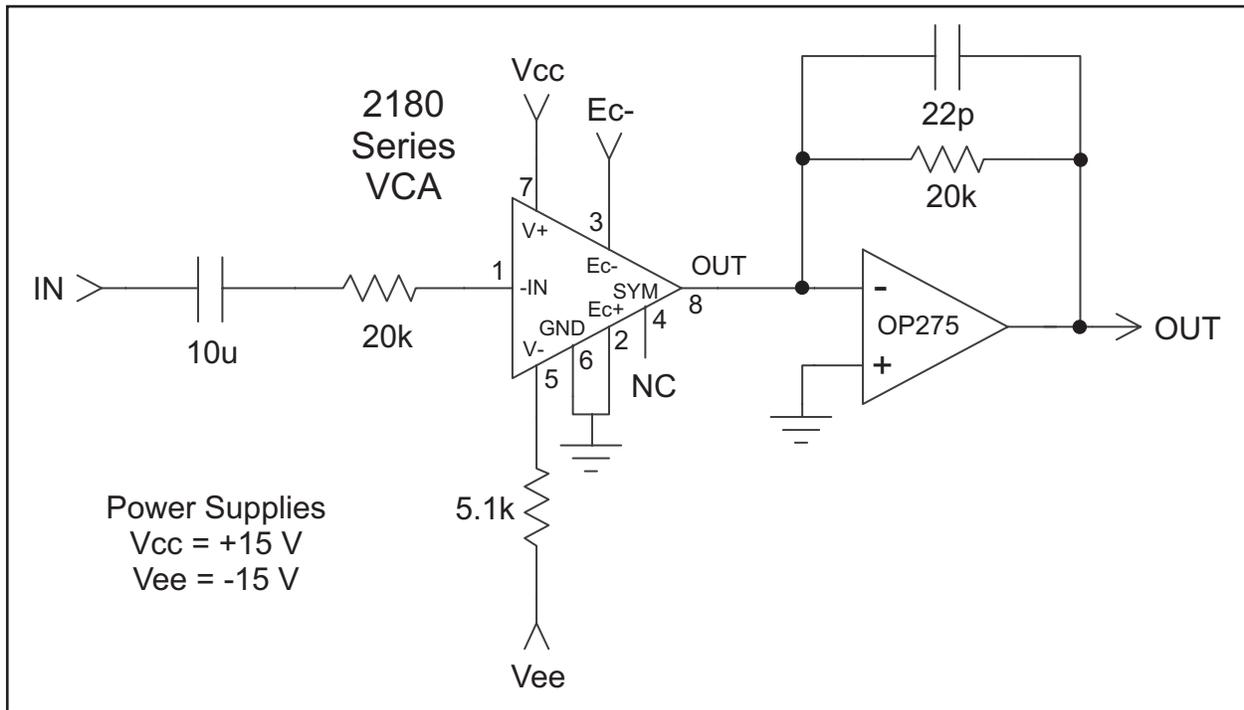
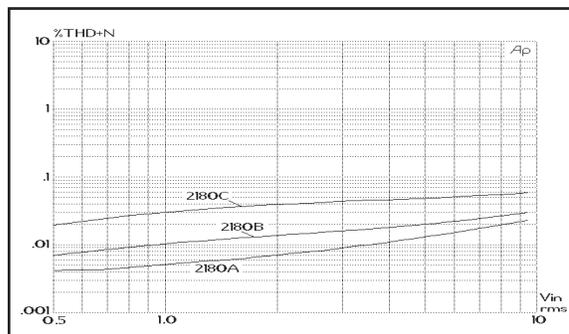
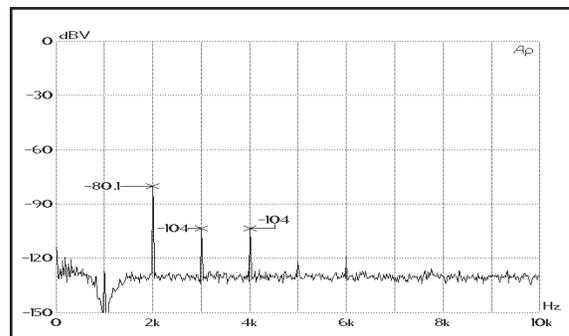

Figure 2. Typical Application Circuit
Figure 10. 1 kHz THD+Noise Vs. Input Level, 0 dB Gain
Figure 13. FFT of THD, 0dB gain, 1kHz, 0dBV, Typical 2180B
2. Unless otherwise noted, T_A = 25°C, V_{CC} = +15V, V_{EE} = -15V. Test circuit is as shown in Figure 2.
recommended. In particular, the 2180 maintains low distortion over a wide range of gain, cut and signal levels. Figures 10 through 12 show typical distortion performance for representative samples of each grade of the part. Figure 13 shows the harmonic content of the distortion in a typical B-grade part.
The Input pin (pin 1) is a virtual ground with negative feedback provided internally (see Figure 5, Page 4). The input resistor (shown as 20 k Ω in Figure 2, Page 3) should be scaled to convert the available ac input voltage to a current within the linear range of the device. Generally, peak input currents should be kept under 1 mA for best distortion performance.
Figures 10 through 12 show distortion vs. Signal level for the three parts in the 2180 Series for 0 dB, +15 dB and -15 dB gain. The circuit of Figure 2, Page 3 was used to generate these curves.
A designer may trade off noise for distortion by decreasing the 20 k Ω current-to-voltage converting resistors used at the input and output in Figure 2, Page 3. For every dB these resistor values are decreased, the voltage noise at the output of the OP275 is reduced by one dB. For example, with 10 k Ω resistors, the output noise floor drops to -104 dBV (typical) at 0 dB gain — a 6 dB reduction in noise because 10 k Ω is 1/2 of (6 dB lower than) 20 k Ω .
The Output pin (pin 8) is intended to be connected to a virtual ground node, so that current flowing in it may be converted to a voltage (see Figures 2 & 14). Choose the external opamp for good audio performance. The feedback resistor should be chosen based on the desired current-to-voltage conversion constant. Since the input resistor determines the voltage-to-current conversion at the input, the familiar ratio of R_f/R_i for an inverting opamp will determine the overall voltage gain when the 2180 is set for 0 dB current gain. Since the VCA performs best at settings near unity gain, use the input and feedback resistors to provide design-center gain or loss, if necessary.